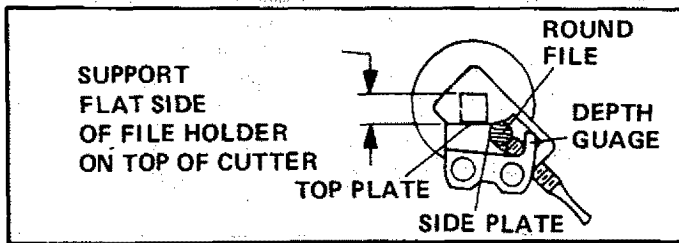

Figure 38
- Support flat side of file holder (with 7/32" round file) on cutter top plate. Figure 38.